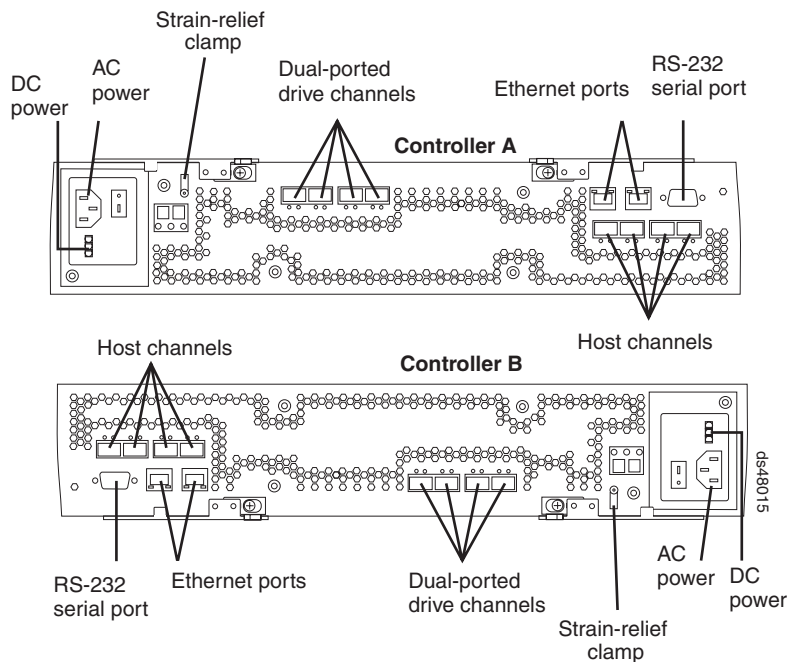

Figure 1. Controller connections
6. Disconnect all attached interface cables from controller B (bottom controller), including the SFP modules. Ensure that you label all cables so that you can reconnect them correctly to the new controller. Figure 1 shows the location of the connectors on the back of a controller.